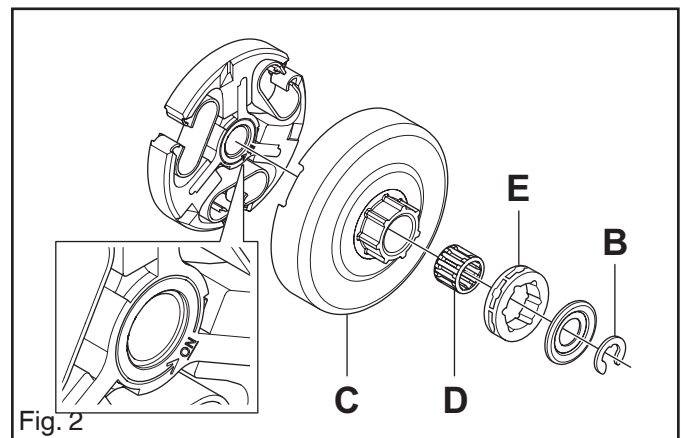

Fig. 2
3. Remove the locking ring (B) with washer and lift up the clutch drum (C) with needle bearing (D) and chain drive sprocket (E). See fig. 2.